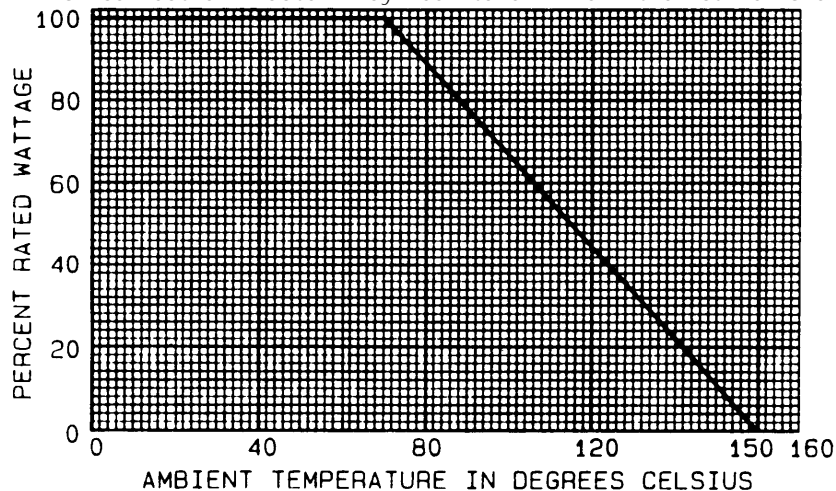

FIGURE 305-1. Derating curve for high ambient temperature.
2.2 Derating at high temperature. The power rating is based on full-load operation at an ambient temperature of  $+70^{\circ}\text{C}$ . However, when a resistor is to be used in a circuit where the surrounding temperature is higher than  $+70^{\circ}\text{C}$ , a correction factor should be applied to the wattage rating so as not to overload the resistor. This correction factor may be taken from the curve shown on figure 305-1.